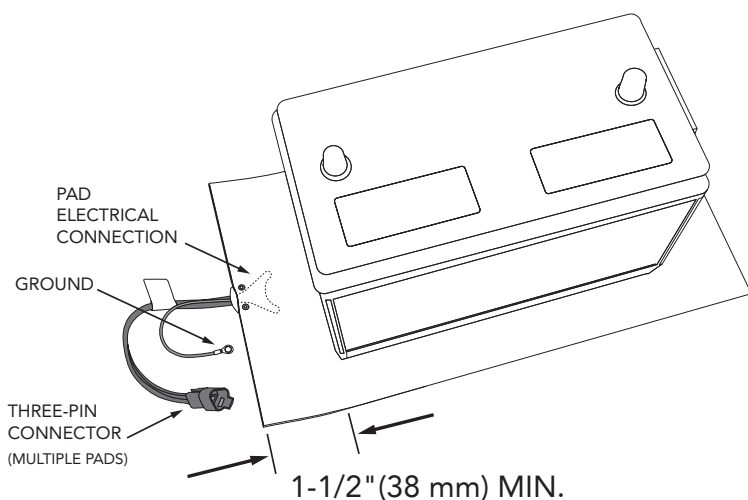

Figure 2. Battery pad installation, showing minimum 1-1/2 inch (38 mm) clearance between battery and pad edge.
6. Place battery on pad. Ensure that battery is placed a minimum of 1-1/2 inches (38 mm) away from edge of pad to prevent damage to pad electrical connection. See Fig. 2.